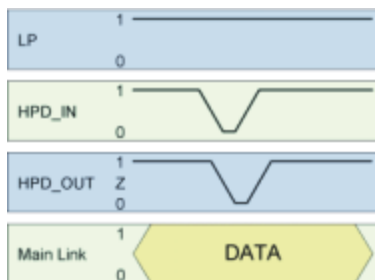
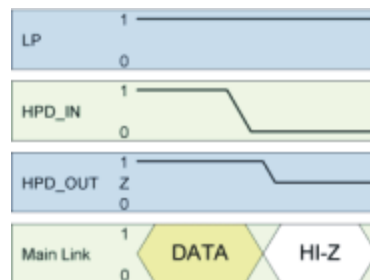

Figure 16.
Figure 17.
- In this case the HPD input is initially HIGH. The HPD output logic state follows the state of the HPD input. If the HPD input pulses LOW, as may be the case if the sink device is requesting an interrupt, the HPD output to the source will also pulse Low for the same duration of time with a slight delay (Figure 16). The delay of this signal through the SN75DP118 is specified as  $t_{PD(HPD)}$ . If the duration of the LOW pulse is less than  $t_{M(HPD)}$  it may not be accurately repeated to the source. If the duration of the LOW pulse exceeds  $t_{T(HPD)}$  the device determines that an unplug event has occurred and enters the low power state (Figure 17). Once the HPD input goes high again the device returns to the active state as indicated in scenario 1.